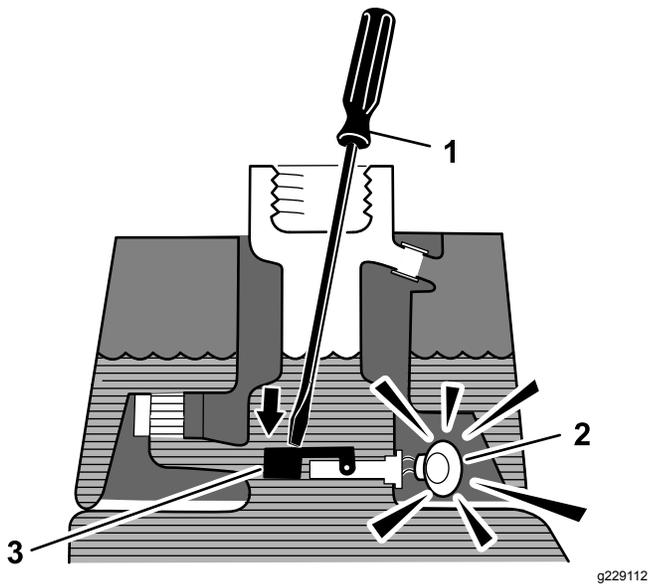

Figure 47
3. Insert a clean rod or screwdriver into the tank neck and gently push down on the float switch (Figure 47); the alarm should sound after the 1-second delay.